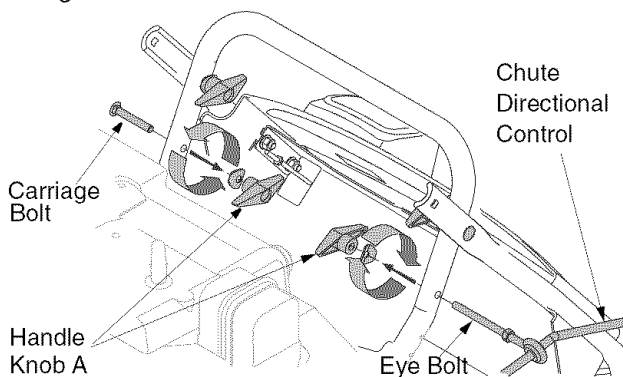

Figure 2
2. Remove handle knob A, cupped washer and carriage bolt from the right lower handle. See Figure 2.
3. Remove handle knob A, washer and eyebolt attached to the left lower handle. Follow the direction of arrows in Figure 2. Do not remove the eyebolt from the chute directional control.